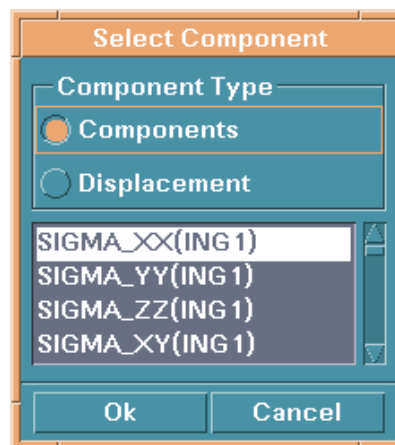

Figure 8.1.7 Select Component
- Select a component in the next dialog window, see Figure 8.1.7.